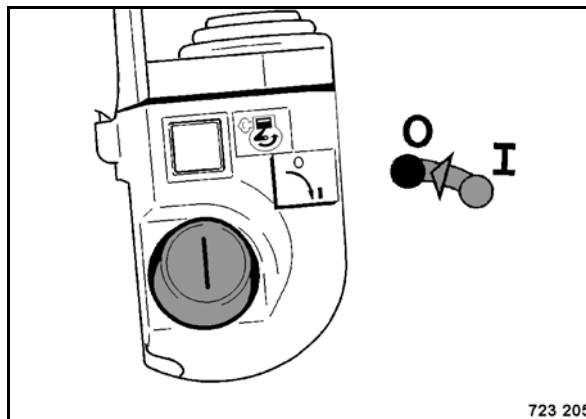

Fig. 50
- Turn the ignition switch (Fig. 50) to position "O".